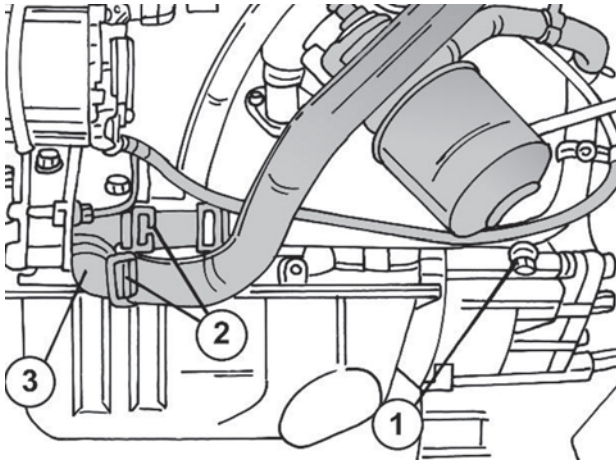

Fig. 1.3. - Draining the cooling system. The numbers are referred to in the text.
- Drain the cooling system. To do this, refer to Fig. 1.3 and slacken the hose clips securing the two hoses (2) or unscrew the water pump flange (3). It is also possible to remove the drain plug (1) to drain the cooling system, depending where the work is carried out. As anti-freeze is contained in the cooling system, check the condition of the solution before deciding whether to drain it or to collect it in a suitable container. A pair of pliers for spring-type clamps may be required to open the hose clamps. If not available, cut through the old clamps and use screw-type clamps during installation.